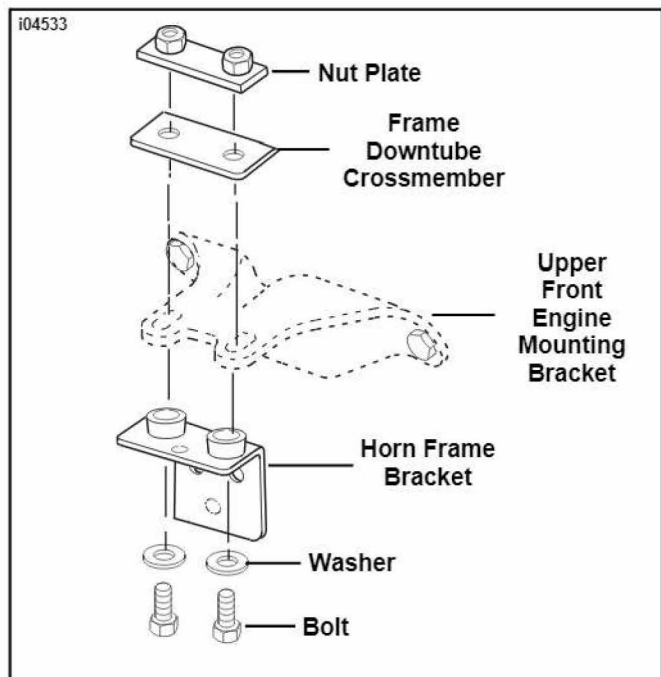

Figure 6. Install Horn Frame Bracket
13. See Service Parts Illustration and Figure 6. Obtain the Horn Frame Bracket (2) from kit. Install horn frame bracket under upper front engine mounting bracket as shown. Install bolts (with washers) through horn frame bracket, upper front engine mounting bracket, frame crossmember and into nut plate. Tighten bolts to 25-30 ft-lbs (34-41 Nm).